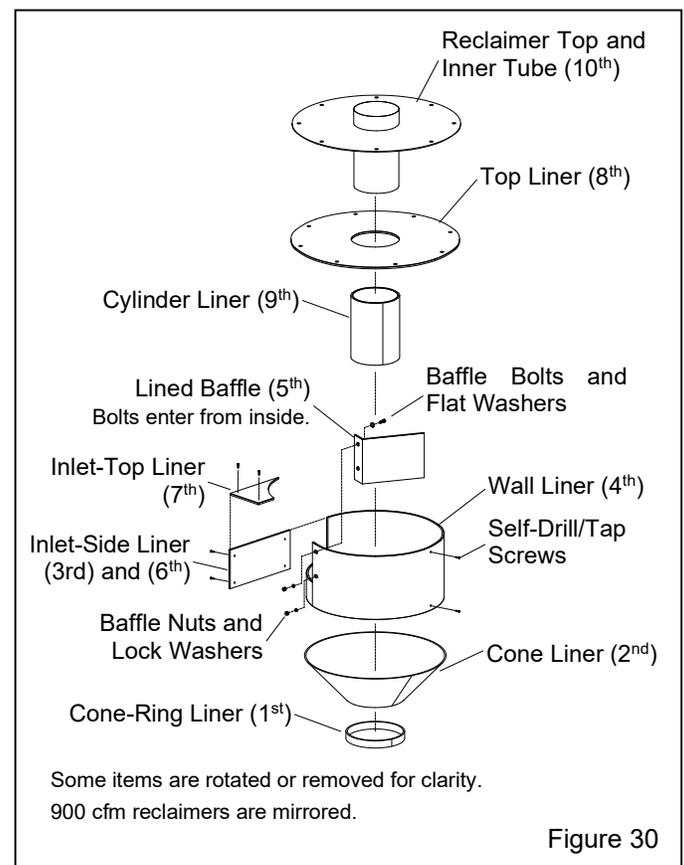

Figure 30
7.9 Replacing or Field Installing Optional Rubber Reclaimer Liners – Figure 30
Installation Note: The numbers in parentheses (-) shown in Figure 30 and their applicable paragraphs show the recommended order of installation. When installing the liners, make sure that seams are aligned. The final assembly must be smooth and free of protrusions, edges, and gaps. Any edges will disrupt the air flow, causing wear and affecting the reclaimer's media cleaning efficiency.